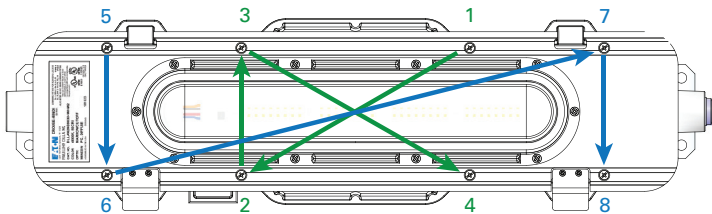

Figure 1. MLLA2 Driver housing screw locations
2. Ensure all driver cover screws are free from driver housing (see Figure 1). Screws are a captive type and should not be fully removed from the light engine assembly
14. Re-position LED light engine fitting using latching clips. Verify that no luminaire wiring is pinched or trapped between light engine and driver housing. Start all screws prior to tightening making certain none are cross threaded. Finish tighten all eight (8) cover mounting screws to a torque of 23 in.-lbs. (2.6 N-m) using the bolting sequence directed in Figure 1.